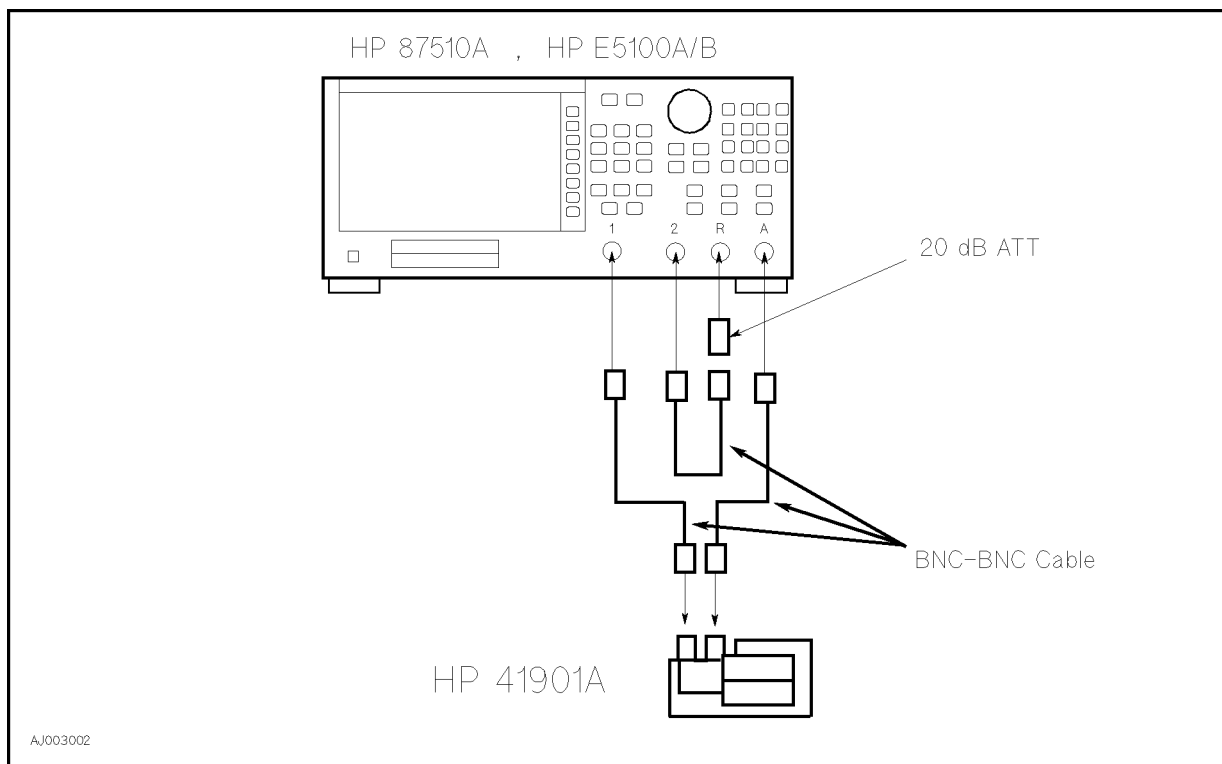

Figure 3-1. Connecting the HP 41901A to the HP 87510A, HP E5100A/B
Figure 3-1 shows how to connect the HP 41901A to the HP 87510A Gain-Phase Analyzer, HP E5100A/B Network Analyzer. If the instrument is the HP E5100A with option 600, the connection of the 20dB ATT is not necessary.
2. Connect the HP 41901A to the HP 87510A, HP E5100A/B as shown in Figure 3-1.